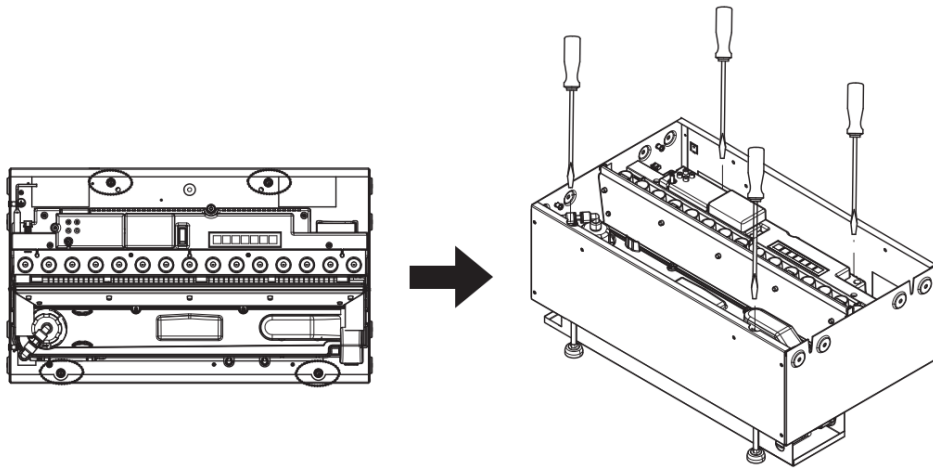

Fig.5
3. Ensure the second product is at the correct height to match the first product and ensure it is adequately level. This can be done by adjusting the adjustable feet with a flat head screwdriver. (Fig 5)